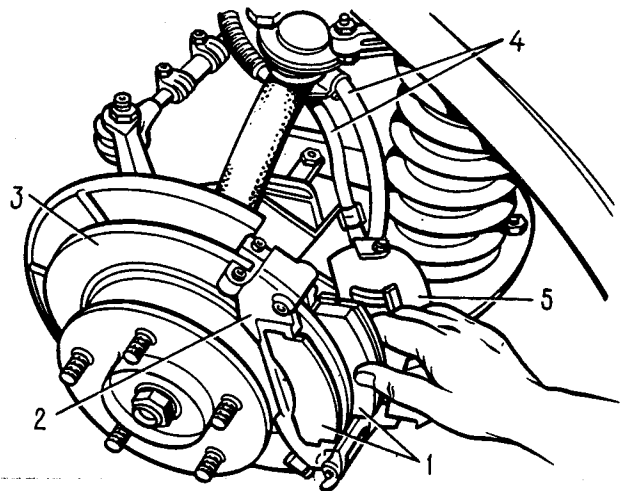

Fig. 6-17. Replacing Brake Shoes: 1 - brake shoes; 2 - shoe guide; 3 - brake disc; 4 - brake hoses; 5 - cylinder block (assembled with caliper)
- uncotter the axle of the upper holddown lever, take out the axle and remove the lever; remove the caliper assembly and pull the worn shoes from the slots of the guide (Fig. 6-17);